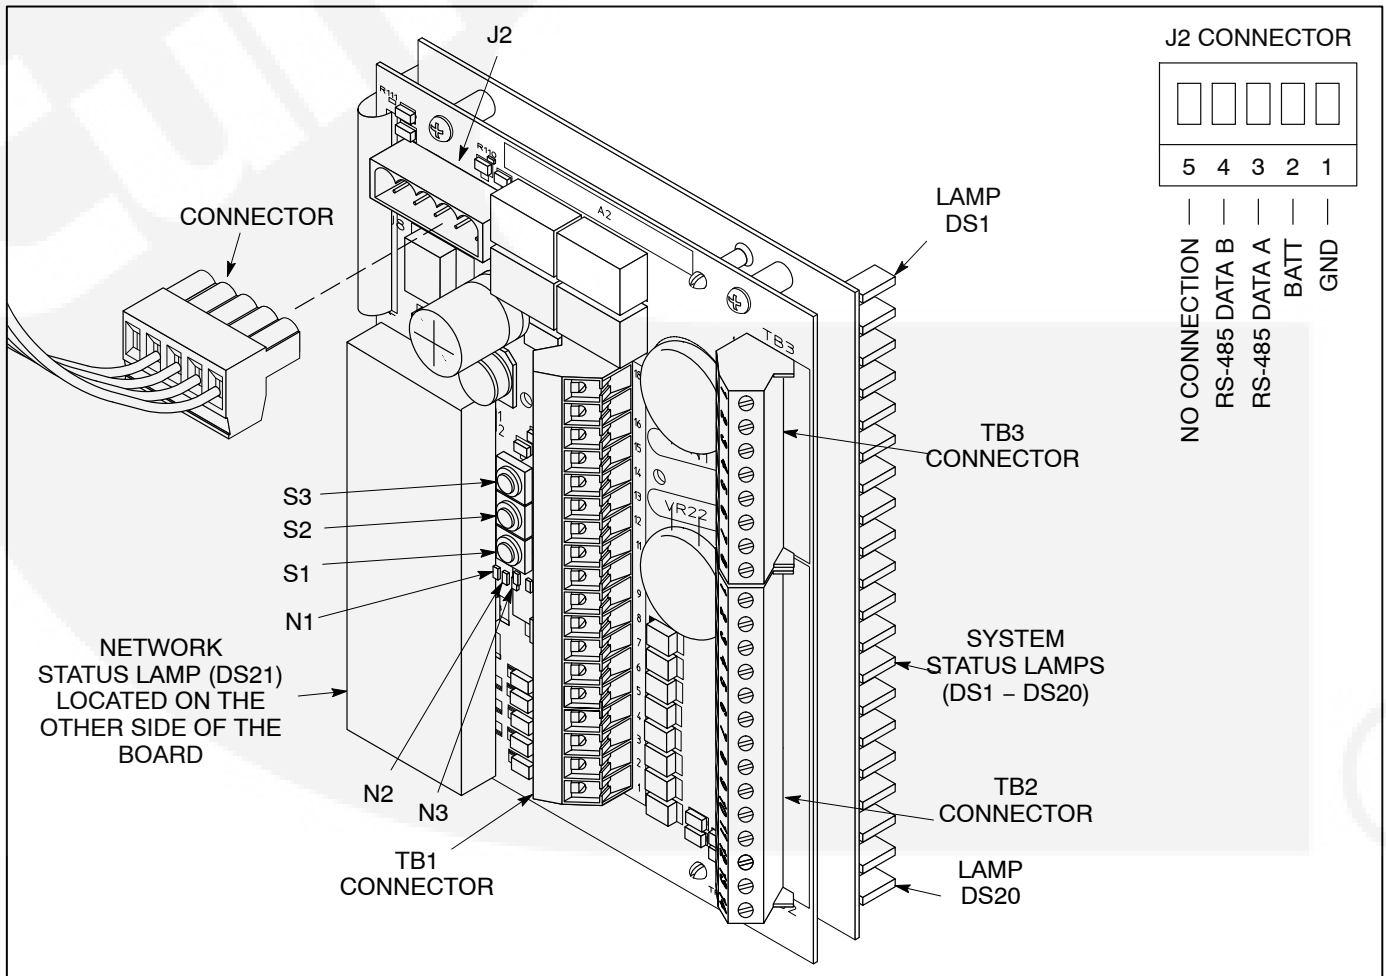

FIGURE 6. ANNUNCIATOR CONTROL BUTTONS, STATUS LAMPS, AND CONNECTORS
- b. LED N3 on the back of the control board (see Figure 6) starts flashing (green – one flash per second), indicating that the annunciator is in Running Mode.
Annunciator functions can be modified to meet the needs of your installation. Individual status lamp colors (red, green, or amber), flash, and alarm characteristics can be changed. The S1 button on the control board (see Figure 6) can be used to enter the configuration mode and make adjustments.